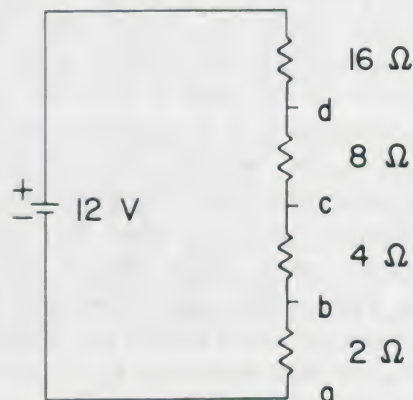

Figure 45.
2. For the circuit shown in Figure 45, calculate the voltages between  $a$  and  $b$ , between  $a$  and  $c$ , and between  $a$  and  $d$ .